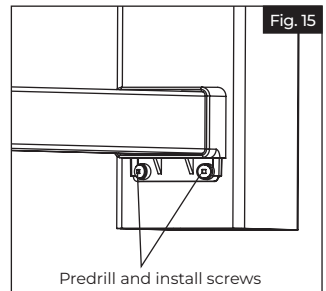

Fig. 15
- b. Install the #10 x 2" square drive screws (Fig. 15).